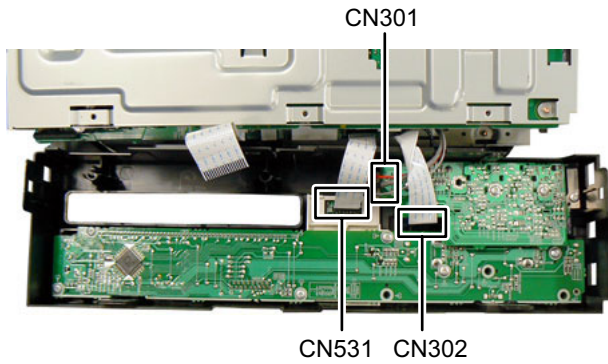

Fig.7
- (6) Disconnect the card wire from main board connected to connector **CN531** of the Touch sensor board. (See Fig.7)
- (7) Disconnect the card wire from Main board connected to connector **CN302** of the Front jack board. (See Fig.7)
- (8) Disconnect the connector wire from Main boards connected to connector **CN301** of the DVD module board. (See Fig.7)